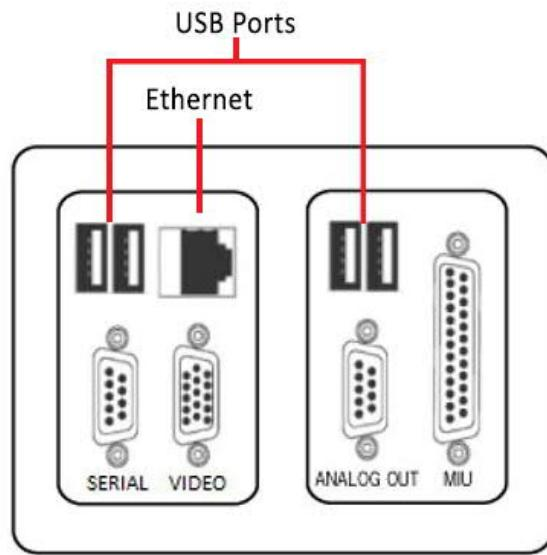

Figure 5: Data Interface Connection Ports
This section describes the data interface connections as shown in Figure 5. These connections may vary from analyzer to analyzer depending on the ordered configuration.
1. See Figure 5 for a detailed description of the connections.